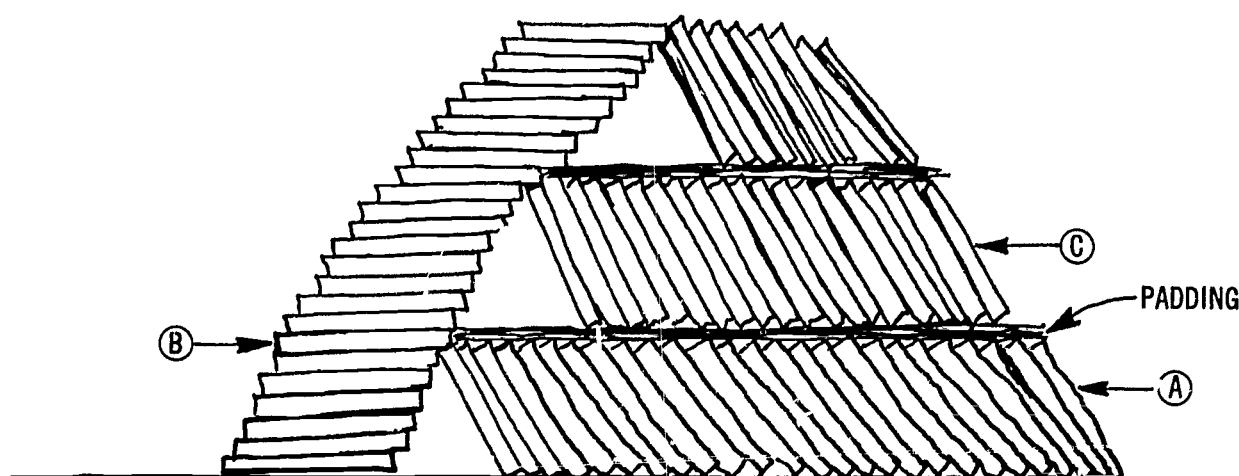

Fig. C-2. Ground stacking of tile
Tile should be stacked on the ground in the following manner (Fig. C-2):
- The first row: stack a pile of tile flat to a height equal to the length of a tile ("A" in Fig. C-2). Stack tile on ends, leaning against the flat stack ("B" in Fig. C-2).
- The second row: add to pile "B" sufficient tile to bring the height equal to a second tier of tile ("C" in Fig. C-2). These tiles will rest partially on the first flat stack and partially on the pile of standing tile.